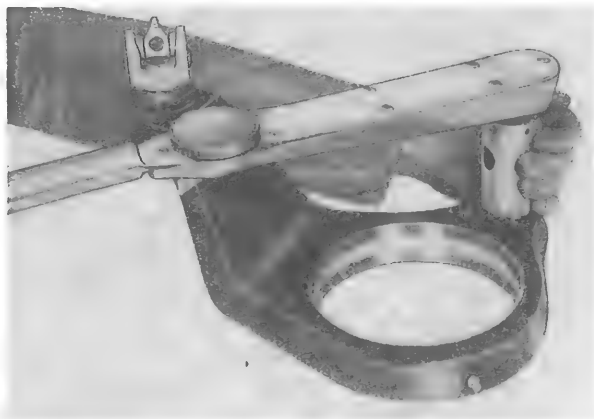

Figure 5-19. Tightening Lock Nut on Lock Assembly of Horn
g. Install cotter pin so that there is at least 1/4-inch clearance with the cap nut (24). Tighten cap nut with 120 to 150 inch-pounds torque, using adapter and wrench, part No. S1570-10217-1 and -5. Use adapter to tighten nut while restraining yoke with wrench. Bend a tang of lockwasher (23) up into cap nut (24) and one down into horn. Install lubrication fitting (25) in cap nut.
h. Apply primer, Military Specification MIL-P-8585, to housing of lock assembly (7) and insert lock assembly into horn. Install lockwasher (8) and lock nut (9). Bend a tang of lockwasher into groove in horn. Tighten lock nut to a torque of 120 to 150 inch-pounds, using wrench adapter, part No. S14-50-4102. Bend a tang of lockwasher up into nut. (See figure 5-19.)